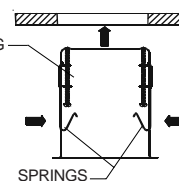

FIG.3
3. Press the springs toward the inside of the housing and push the housing into the ceiling opening. (Fig.3)
3. Press the springs toward the inside of the housing. (Fig.3)